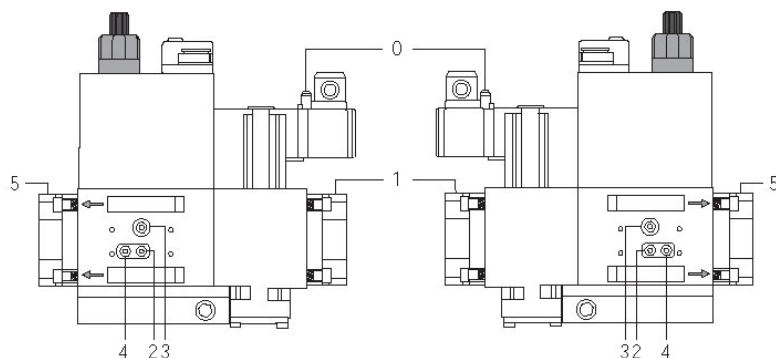
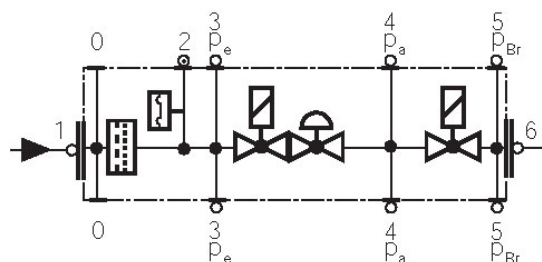

Fig. 37
Fig. 38
- Check and clean the gas filter cartridge (see Fig. 37), replace it if necessary;
- Change the filter if the pressure difference between pressure connection 1 and 2 (Fig. 37-Fig. 38) $\Delta p > 10$ mbar.
- Change the filter if the pressure difference between pressure connection 1 and 2 (Fig. 37-Fig. 38) is twice as high compared to the last check.